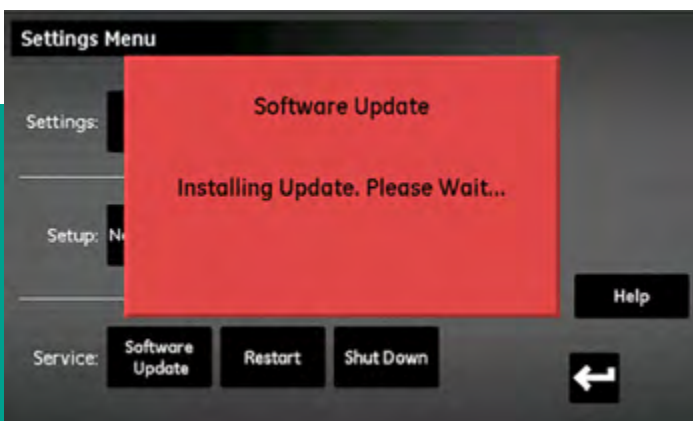

Figure 90: installing screen
8. After the software update is complete, the meter prompts you to restart the meter (see *figure 90* below). Tap the **restart** button to reboot the moisture.IQ.